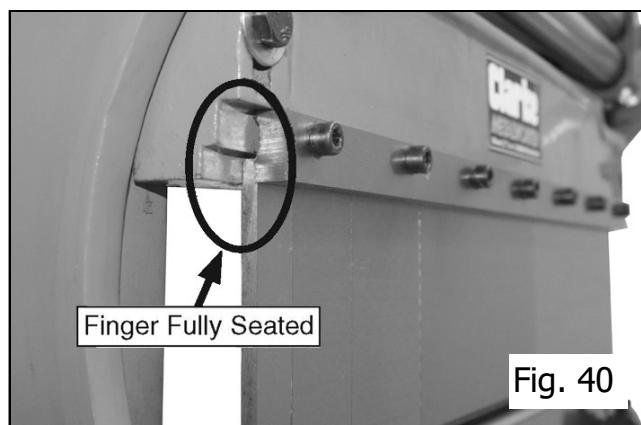

Fig. 40
8. Make sure the fingers are slightly loose between the gib and the casting, then use the hand crank to raise the receiver to fully seat the fingers up against the casting behind the gib, as shown in Figure 40.